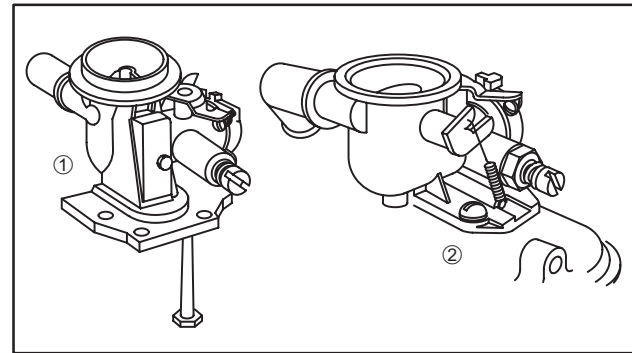

Fig. 141 – TYPES OF VACU-JET CARBURETORS
There are two (2) basic types of Vacu-Jet carburetors used on above series engines. They are ① Automatic Choke, and ② CHOKE-A-MATIC®, Fig. 141.